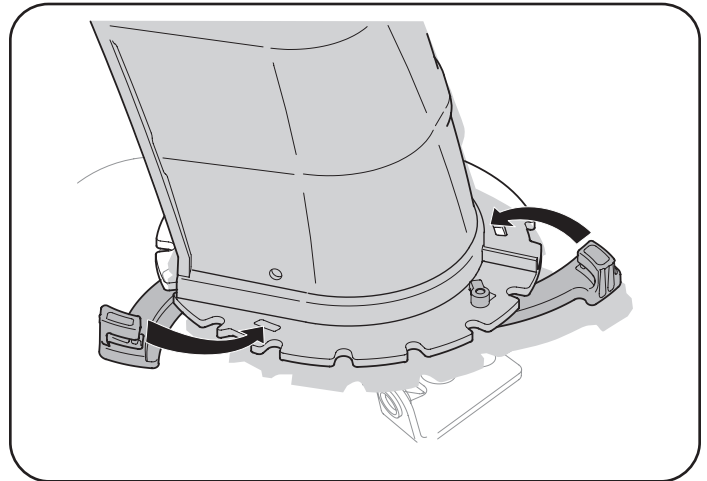

Figure 10
2. Close flange keepers to secure chute assembly to chute base. Flange keepers will click into place when properly secure. See Figure 10.